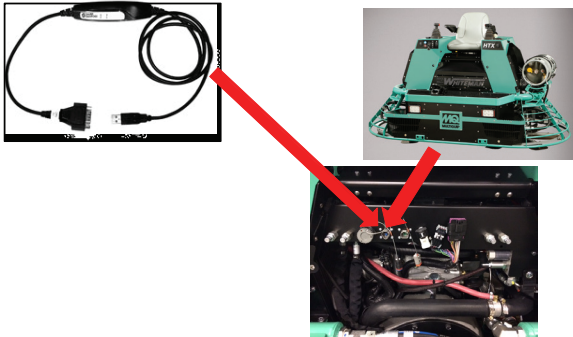

Figure 16. CAN Gateway Cable to Service Port
1. Plug the CAN Gateway cable to the trowel at the service port (Figure 16). Do not connect laptop at this time.